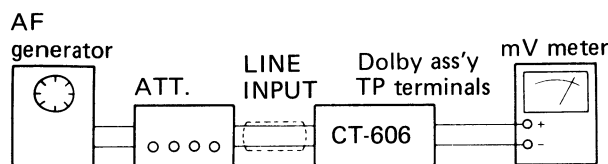

Fig. 48 Connection of level meter adjustment
1. Connect a millivoltmeter to the Dolby assembly test point (TP) terminals (Fig. 48).